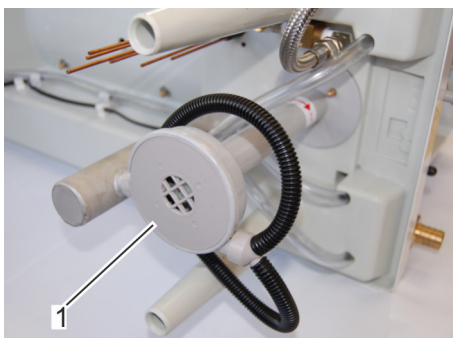

Fig. 40: Cleaning the pump body
- 9.** ➤ Clean the pump body (Fig. 40/1) using a cloth.